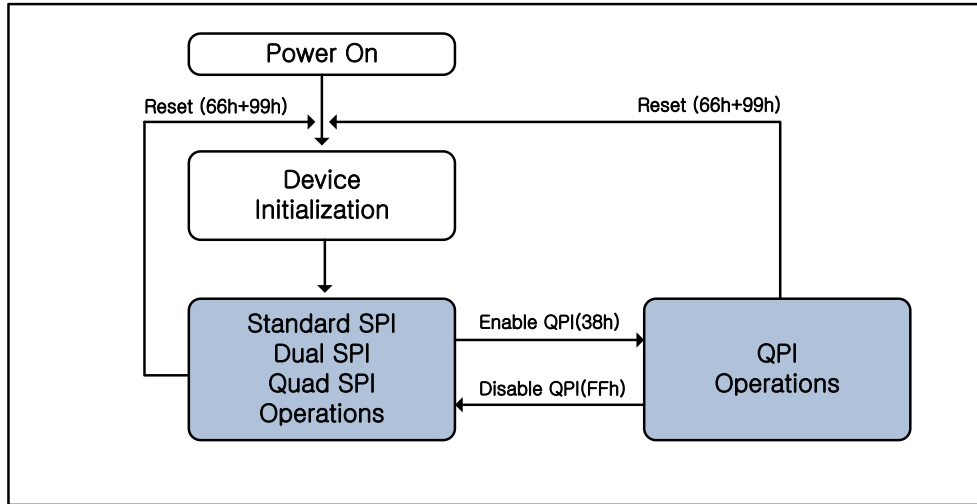

Figure 3. SPI / QPI Operation Diagram of FM25M16A
The FM25M16A supports Quad Peripheral Interface (QPI) operation when the device is switched from Standard/ Dual/ Quad SPI mode to QPI mode using the “Enable QPI (38h)” instruction. To enable QPI mode, the non-volatile Quad Enable bit (QE) in Status Register-2 is required to be set. When using QPI instructions, the DI and DO pins become bidirectional IO0 and IO1, and the /WP and /HOLD pins become IO2 and IO3 respectively. See Figure 3 for the device operation modes.